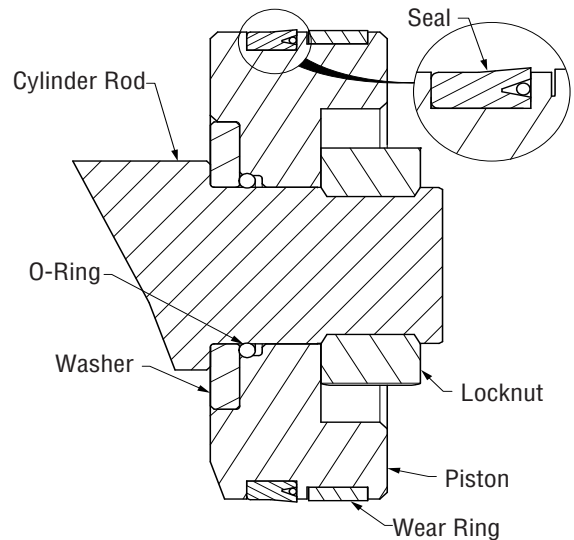

Figure 5-41, Piston Seal
2. Note the direction of the seal on the piston. Improper installation will result in poor performance. The cupped side or O-ring side of the seal should be facing the gland cap. (Figure 5-41)